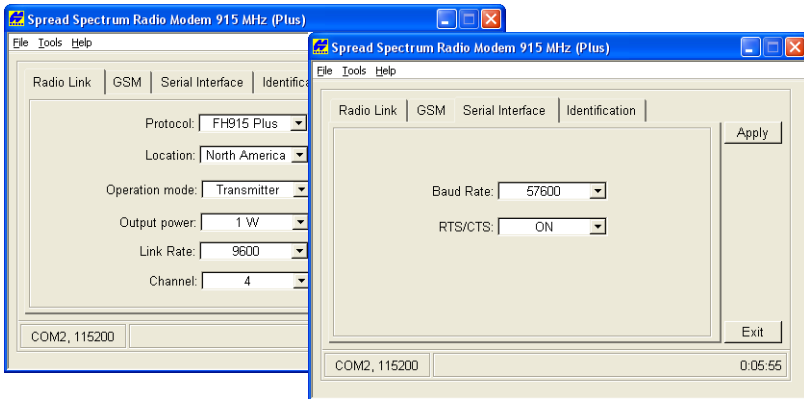

Figure 3-2. Apply Radio Link and Baud Rate Parameters
- 3. On the *Radio Link* tab, set the following parameters (Table 3-1) and click **Apply** (Figure 3-2 on page 3-6).
4. On the *Serial Interface* tab, select the following baud rate parameters and click **Apply** (Figure 3-2).